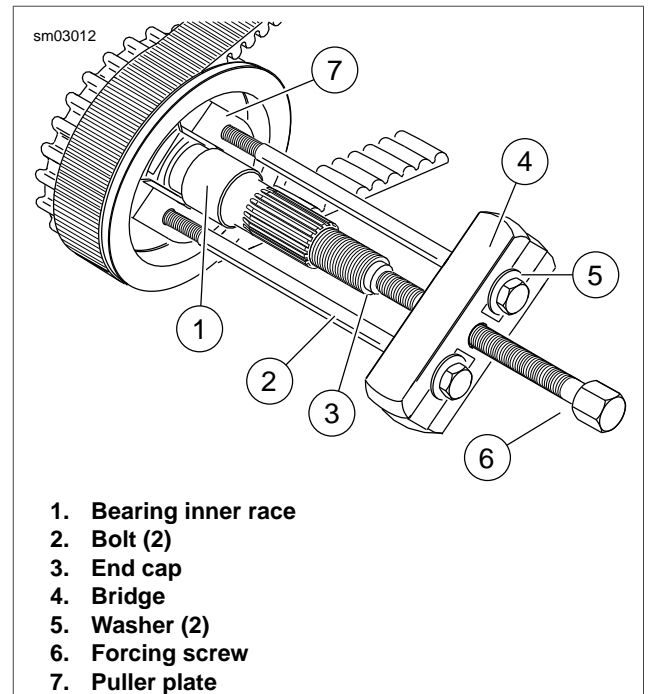

Figure 6-22. Pulling Mainshaft Inner Bearing Race
1. See Figure 6-22. Install washers (5) on bolts (2). Slide one bolt into channel on each side of bridge (4) so that washer is between bridge and bolt head.
2. Thread bolts into stamped side of puller plate (7) an equal number of turns.
3. Apply graphite lubricant to threads of forcing screw (6). Thread forcing screw into bridge.
4. Position puller plate between inner race (1) and sprocket nut.